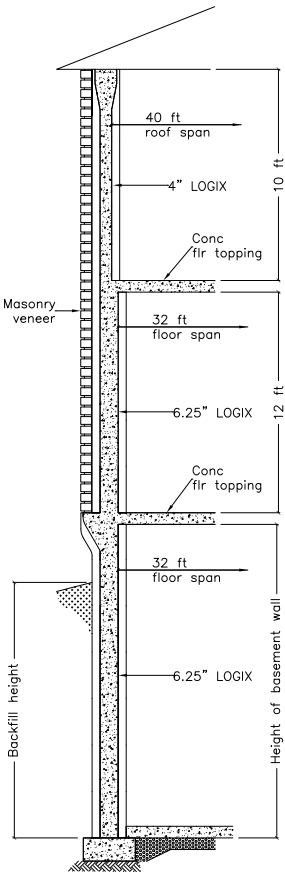

Fig 2A
Tables 2A-H to 2D-H shall be used in conjunction with corresponding Figures 2A to 2D, the notes listed below, and the building limitations noted in the "Reinforcement Tables" section, which form the basis of these tables.
- Table shall be read in conjunction with Fig 2A, and section "Notes for Tables 2A-H to 2D-H- LOGIX Below-Grade Tables with Helix Reinforcement."